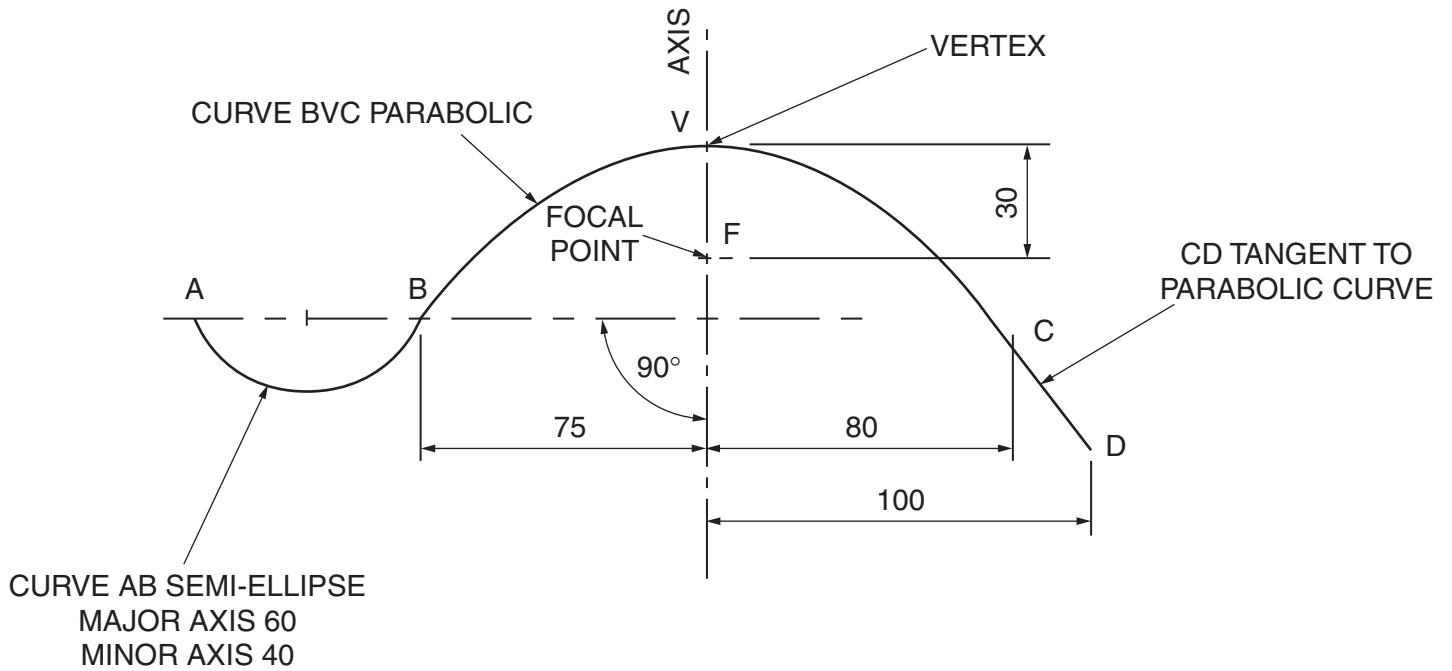

Fig. 3
- 3 Fig. 3 shows the curved shape formed by the centre line of a metal arm.